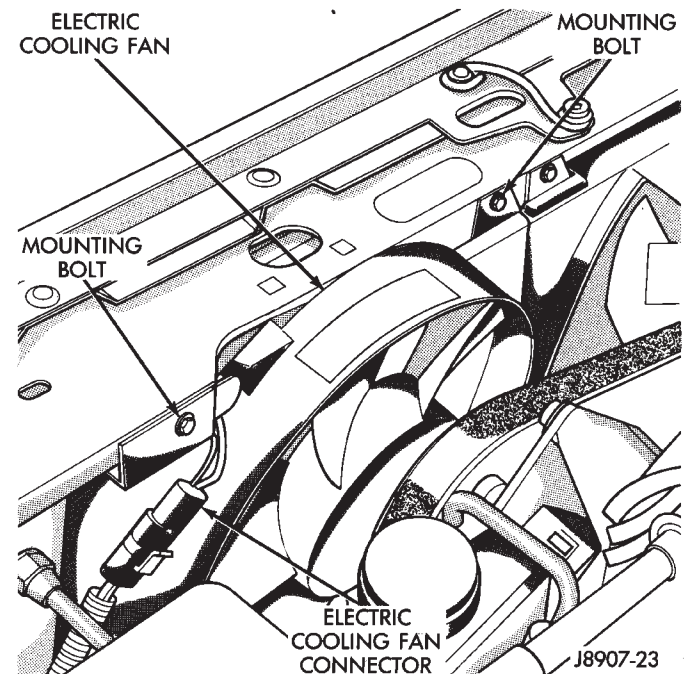

Fig. 18 Auxiliary Cooling Fan Connector—XJ with 4.0L Engine
(14) On XJ models equipped with 4.0L engine and A/C, verify that auxiliary cooling fan wire connector is firmly connected to harness (Fig. 18).
(15) Inspect the air cleaner inlet and air filter element for restrictions.
(16) Inspect radiator grille area, radiator fins and air conditioning condenser for restrictions.